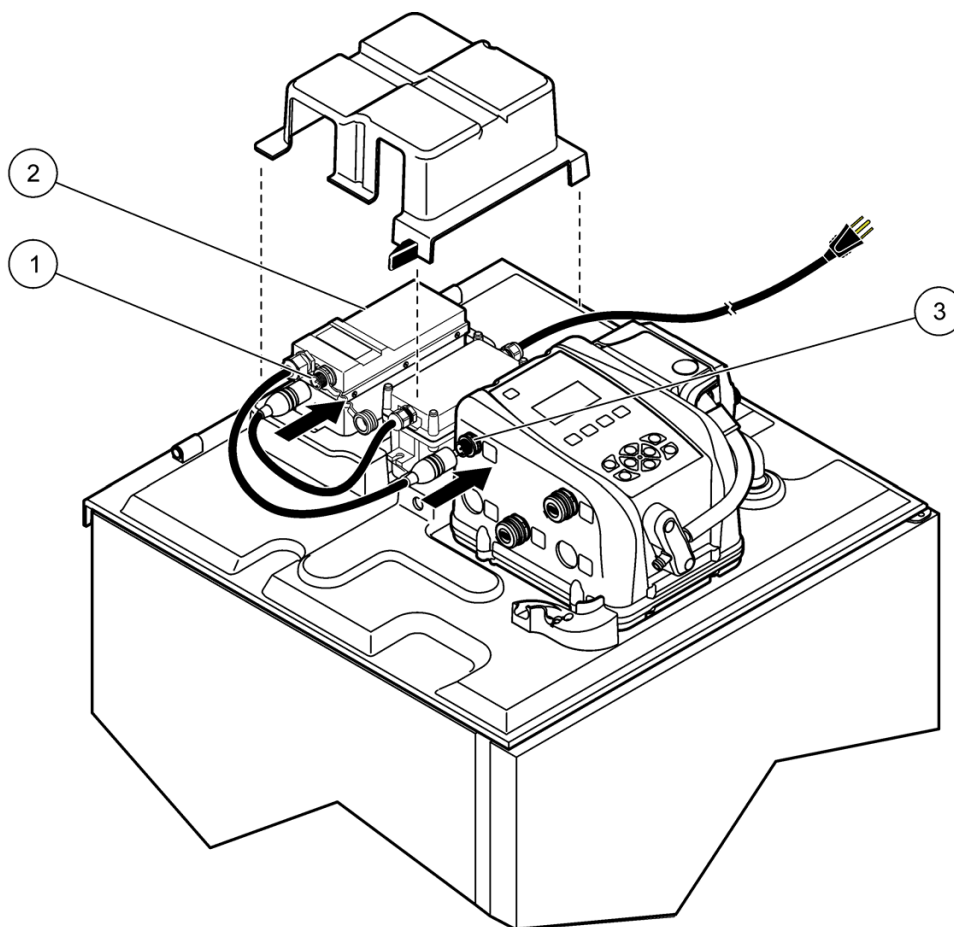

Figure 5 Battery placement and connection for SD900 Refrigerated Sampler
5. Put the battery backup in the rear compartment of the refrigerator next to the sampler power supply (Figure 5 on page 6).